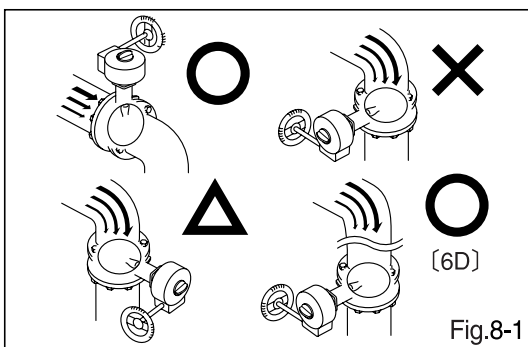

Fig.8-1
- **Installation the valve to a bent pipe** : Upon installation of the valve to the pipings, no define limitation of direction of the valve being installed but, under such condition as illustrated in Fig.8-1, direction of stem to be cared.